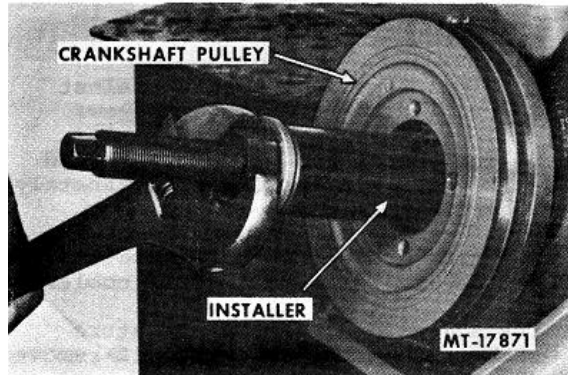

Fig. 124 Installing Crankshaft Pulley
24. Position pulley key in keyway of crankshaft. Lubricate inside diameter with press-fit lubricant. Install crankshaft pulley using installer tool SE-1900 (Fig. 124). Install crankshaft pulley nut and flat washer. Tighten pulley nut to specified torque (see TORQUE CHART).